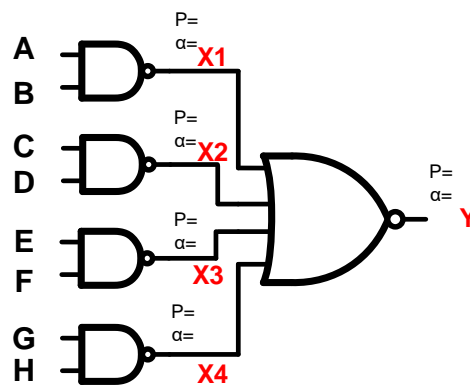

Figure 1. 8-input AND gate
**1A** : Figure 1 shows an 8-input AND gate built by a tree of gates. If all of the input probabilities are 0.5, please **determine** the activity factors and probabilities at each node in the circuit.